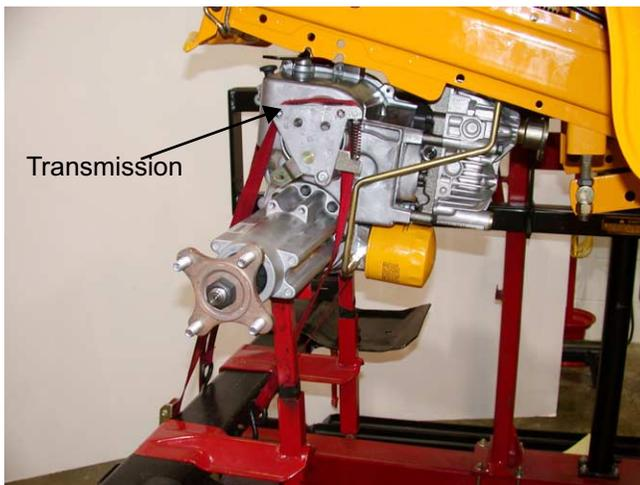

Figure 7.16
7.16. The transmission is out and ready to be transferred to the workbench. See Figure 7.16.